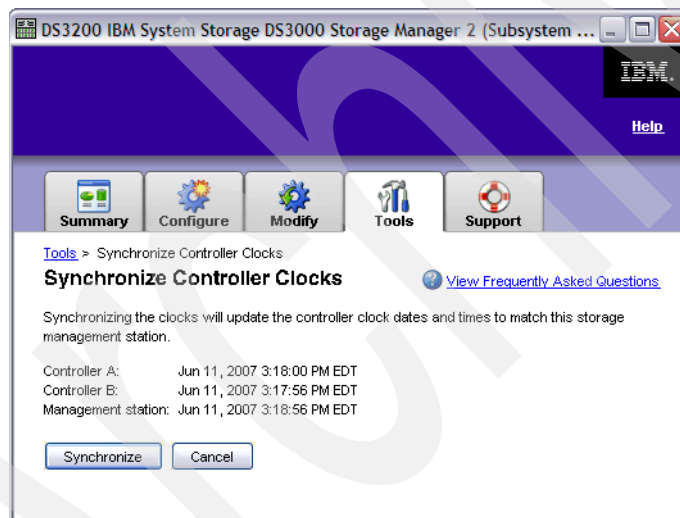

Figure 12-27 Synchronize Controller Clocks
1. Click **Synchronize Controller Clocks** (Figure 12-1 on page 258). Figure 12-27 displays the time of Controllers A and B and the Management Station.